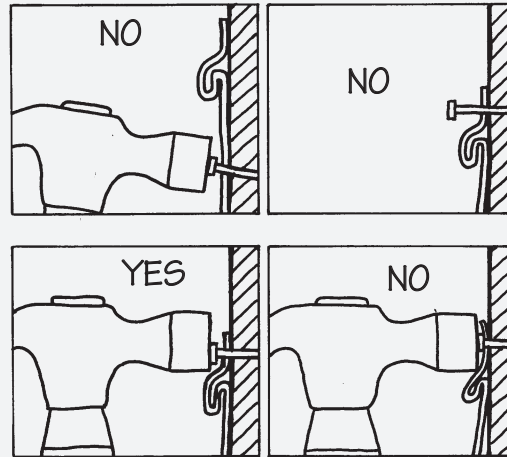

Figure 14.
- Do not drive the head of the fastener tightly against the siding nail hem. Leave a minimum of 1/32" (the thickness of a dime) between the fastener head and the vinyl. **Tight nailing, screwing, or stapling will cause the vinyl siding to buckle with changes in temperature (Fig. 14).**